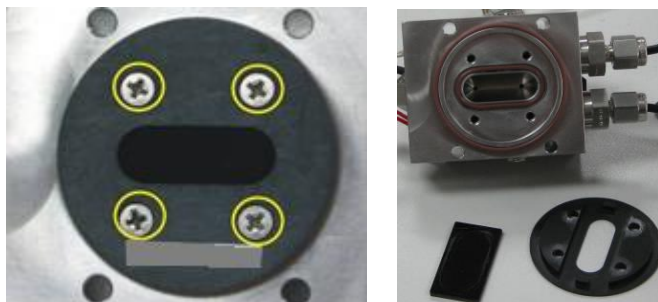

Figure 60 – Optical Filter Removal and Cleaning
6. Turn the reaction cell upside down and remove the four screws fastening the optical filter from the cell (refer to Figure 60).